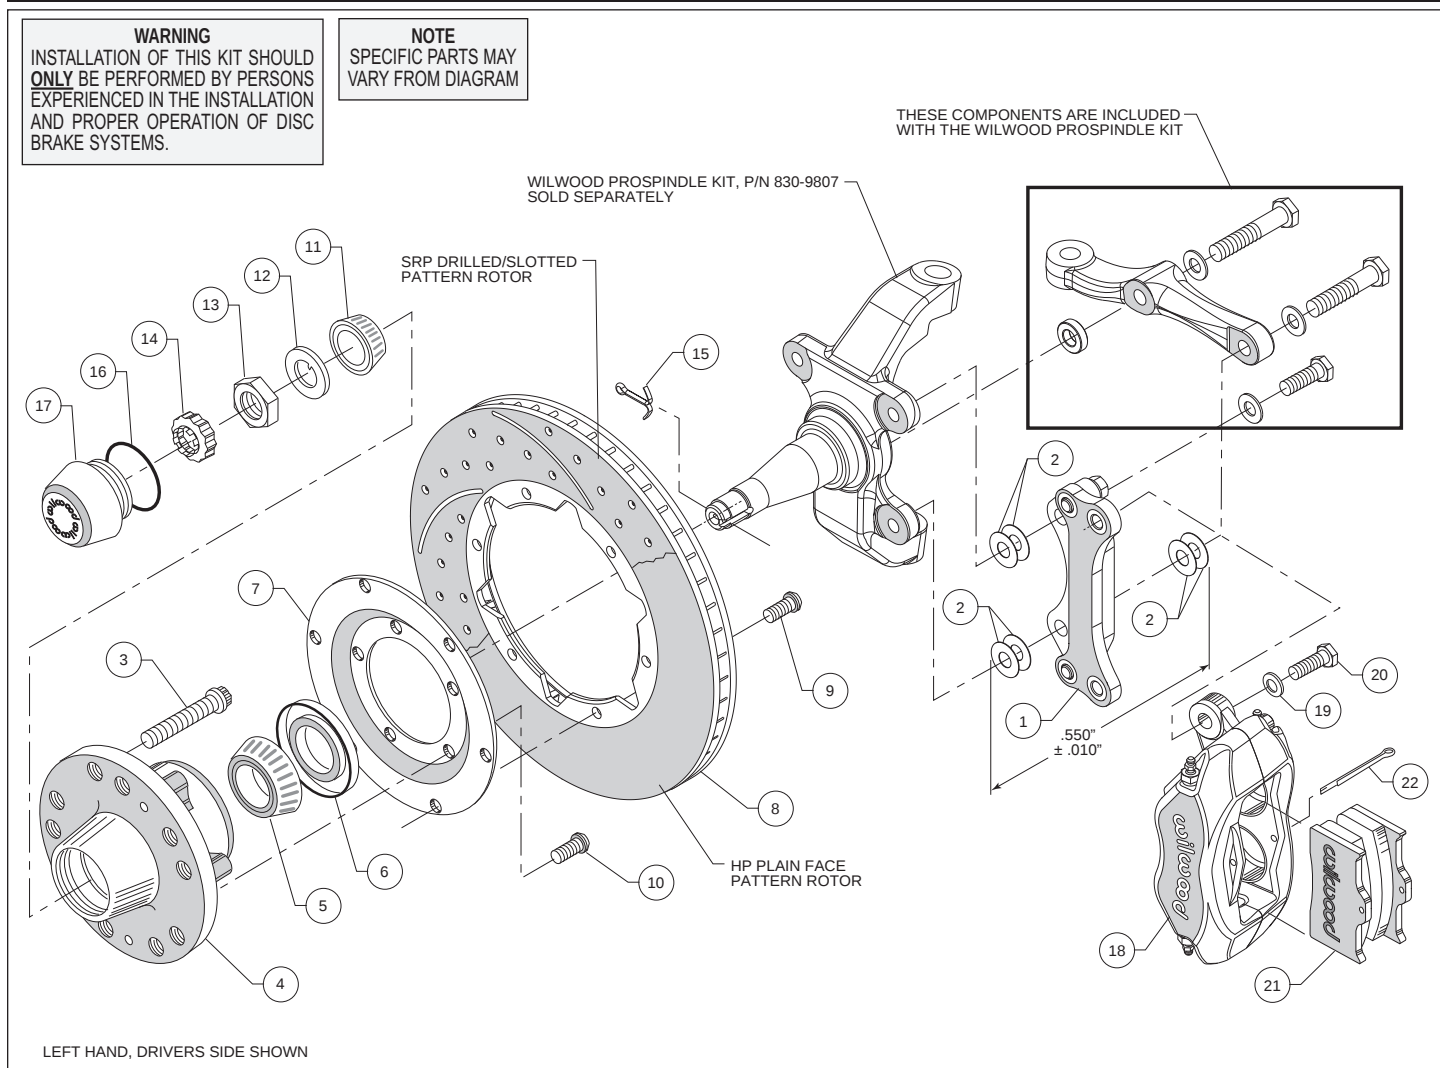

Figure 1. Typical Installation Configuration
- The caliper mounting bracket assembly (1) in conjunction with the Wilwood ProSpindle (P/N 830-9807, includes three mounting bolts, three washers, and a spacer, kit sold separately) should be installed first with clean, dry threads on the mounting bolts as follows:
- Install the bracket on the inboard side of the spindle by sliding the 1.25" long bolt from the ProSpindle kit through a flat washer, also from the ProSpindle kit, through the top hole of the caliper mounting bracket (1) and into the upper rear spindle mounting ear hole, do not tighten at this time. Use two thin shims (2) between the bracket (1) and spindle during initial trial fitting.
- Slide the 2.00" long bolt from the ProSpindle kit through a flat washer, through the rear (thinner end) hole on the steering arm, through two shim washers (2), through bottom hole of mounting bracket (1), through another two shim washers (2), and finally into the lower rear spindle mounting hole. The bracket (1) is positioned between the steering arm and the spindle for the bottom bolt installation. The bracket and shim washers for the lower rear mounting must be a thickness of .550 ± .010". Again, do not tighten.
- Finish installing the steering arm assembly by sliding the 2.25" long bolt through flat washer, then through the front (thicker end) hole of the steering arm. Place the .25" thick spacer between the steering arm and the backside of the spindle. Snug all three bolts. The bracket must tighten squarely against the inboard side of the caliper mounting bosses on the spindle body. Inspect for interference from casting irregularities, machining ridges, burrs, etc. **NOTE:** Be sure the heads of the caliper bracket (1) insert nuts are facing outward toward the wheel.
- Install wheel studs (3) into the hub (4). Torque to 77 ft-lb. **NOTE:** There are two lug patterns of five holes each in the hub (5 x 4.50 and 5 x 4.75). Make sure of the correct hole pattern for the wheel application before installing the studs into the hub.
- Orient the rotor (8) and the rotor adapter (7) as shown in Figure 1. Attach the rotor to the adapter using bolts (9). Using an alternating sequence, apply red Loctite® 271 to the threads, and torque to 25 ft-lb.
- Mount the adapter/rotor assembly (7/8) to the hub (4) using bolts (10), as shown in Figure 1. Using an alternating sequence, apply red Loctite® 271 to the threads, and torque to 45 ft-lb.
- Pack the large inner bearing cone (5) with high temperature disc brake bearing grease (available from your local auto parts store) and install into the backside of the hub (4).
- Install the grease seal (6) by pressing into the backside of the hub (4).
- Pack the small outer bearing cone (11) with high temperature disc brake bearing grease and install into front of hub (4). Slide the hub assembly (4, 5, and 6) with outer bearing cone (11) onto the spindle. Secure using spindle washer (12), adjusting nut (13) and nut retainer (14). Secure to spindle using cotter pin (15). Adjust bearing using a 12" wrench to tighten the adjusting nut while turning the rotor. When the rotor binds slightly, all the bearing parts are seated properly. Back of the nut 1/6 to 1/4 of a turn or enough to allow 0.001 to 0.007 end play. Lock the nut with a new cotter pin. **WARNING:** Failure to back off the adjusting nut may cause the bearing to run hot and be damaged, which could cause the wheel to lock or come off during operation, creating a risk of serious bodily harm.
- Install the o-ring (16) and the dust cap (17) onto the hub (4). Friction created by the o-ring (16) on the dust cap (17) keeps it from unscrewing on its own.